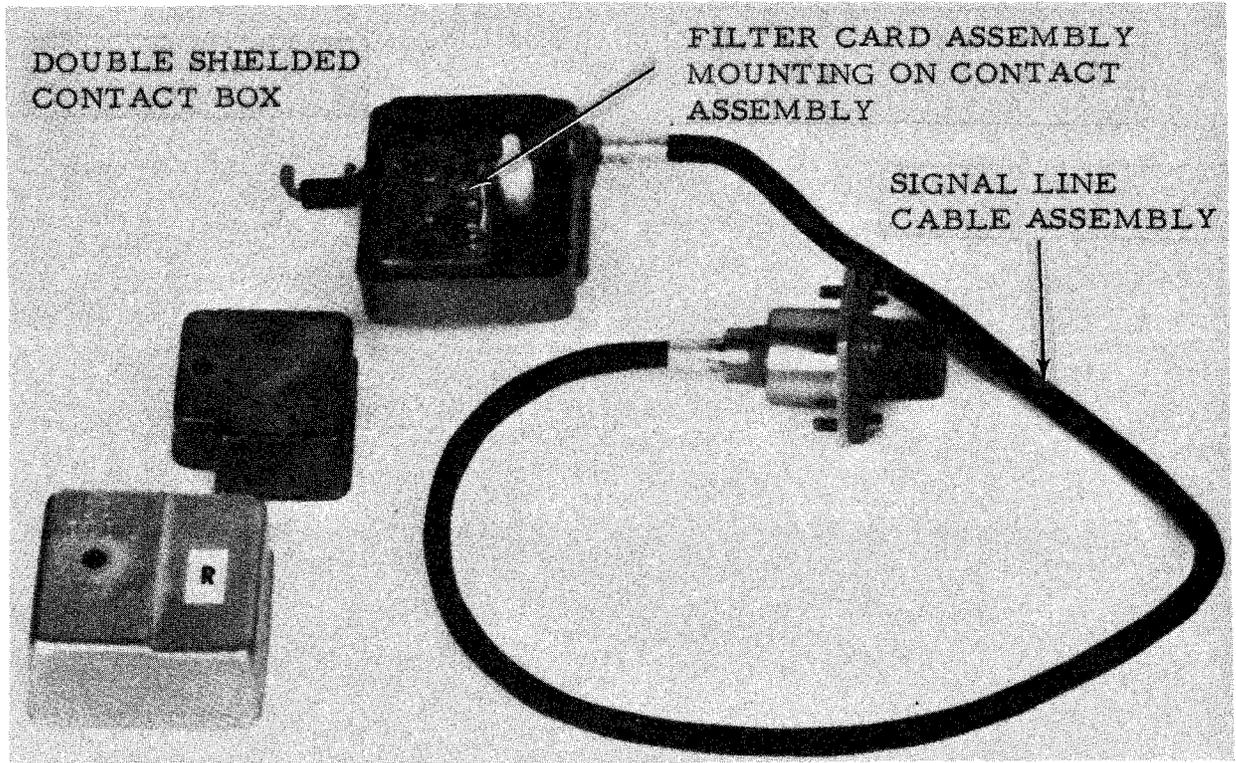

Figure 1-21. RFI Signal Generator Contact Box Assembly
b. RFI Transmitter Distributor Unit. The RFI application for low-level TD units consists of a double shielded contact box, a contact assembly, a filter card assembly, and a double shielded signal line cable with receptacle (figure 1-21).
(1) Contact Box.